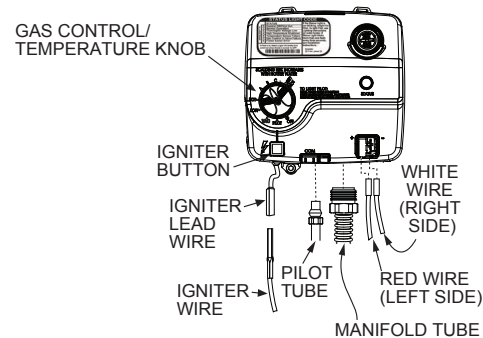

FIGURE 23. GAS CONTROL VALVE REMOVAL
4. Disconnect the igniter wire from the igniter lead wire. Use needle nose pliers to disconnect the red (+) and white (-) thermopile wires. Disconnect the pilot tube (7/16" wrench) and manifold tube (3/4" wrench) at the gas control valve/thermostat. See **Figure 23** (page 32).